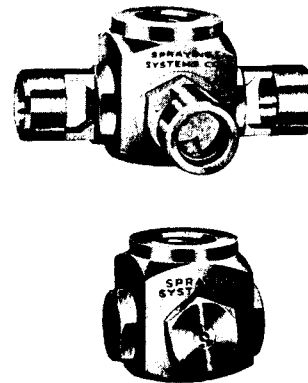

Figure 7-3. Agitator nozzles.
- **Agitation of chemicals in suspension:** Mechanical agitation provided by a shaft with one or more paddles on it provides adequate agitation for wettable powders when used with a suitably shaped tank. Many sprayers cannot be conveniently equipped with a mechanical agitator. The by-pass line from the pressure regulator will not supply a sufficient volume of liquid to keep the wettable powder in suspension in the tank. Since 3-6 gpm are required to keep the wettable powder in suspension, an agitator line connected to the pressure side of the pump is essential. This line should deliver the liquid to the bottom of the tank. If an "agitator nozzle" (Figure 7-3) is attached to an agitator line, the effectiveness of this method of agitation is increased. Do not attach these nozzles to, or restrict the flow of liquid in, the by-pass line.